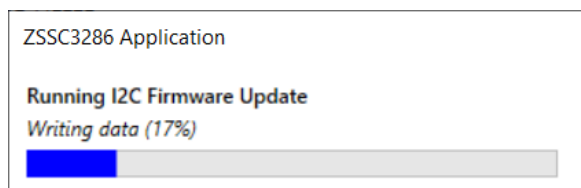

Figure 163. I2C FW Update Progress
- via I2C: Figure 163 shows the progress pop-up window during FW Update.